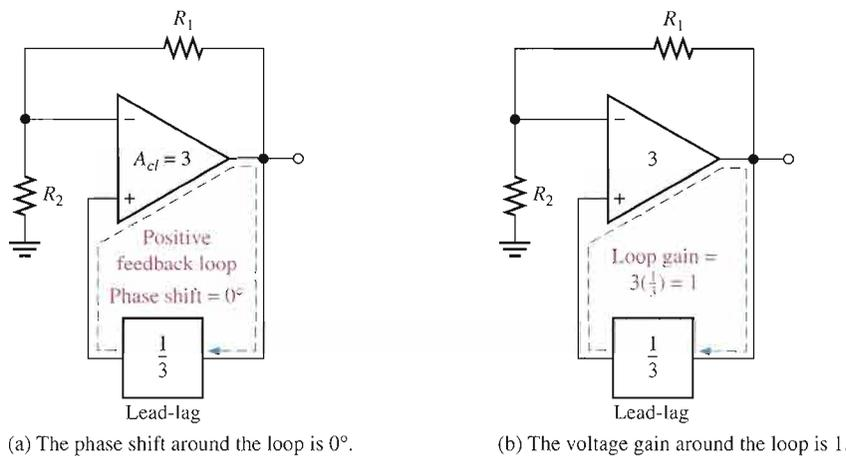

FIGURE 16–8
The circuit is redrawn in Figure 16–7(b) to show that the op-amp is connected across the bridge circuit. One leg of the bridge is the lead-lag circuit, and the other is the voltage divider.
**Positive Feedback Conditions for Oscillation** As you know, for the circuit to produce a sustained sinusoidal output (oscillate), the phase shift around the positive feedback loop must be  $0^\circ$  and the gain around the loop must equal unity (1). The  $0^\circ$  phase-shift condition is met when the frequency is  $f_r$  because the phase shift through the lead-lag circuit is  $0^\circ$  and there is no inversion from the noninverting (+) input of the op-amp to the output. This is shown in Figure 16–8(a).
This offsets the  $1/3$  attenuation of the lead-lag circuit, thus making the total gain around the positive feedback loop equal to 1, as depicted in Figure 16–8(b). To achieve a closed-loop gain of 3,
**Start-Up Conditions** Initially, the closed-loop gain of the amplifier itself must be more than three ( $A_{cl} > 3$ ) until the output signal builds up to a desired level. Ideally, the gain of the amplifier must then decrease to 3 so that the total gain around the loop is 1 and the output signal stays at the desired level, thus sustaining oscillation. This is illustrated in Figure 16–9.
The circuit in Figure 16–10 illustrates a method for achieving sustained oscillations. Notice that the voltage-divider circuit has been modified to include an additional resistor  $R_3$  in parallel with a back-to-back zener diode arrangement. When dc power is first applied, both